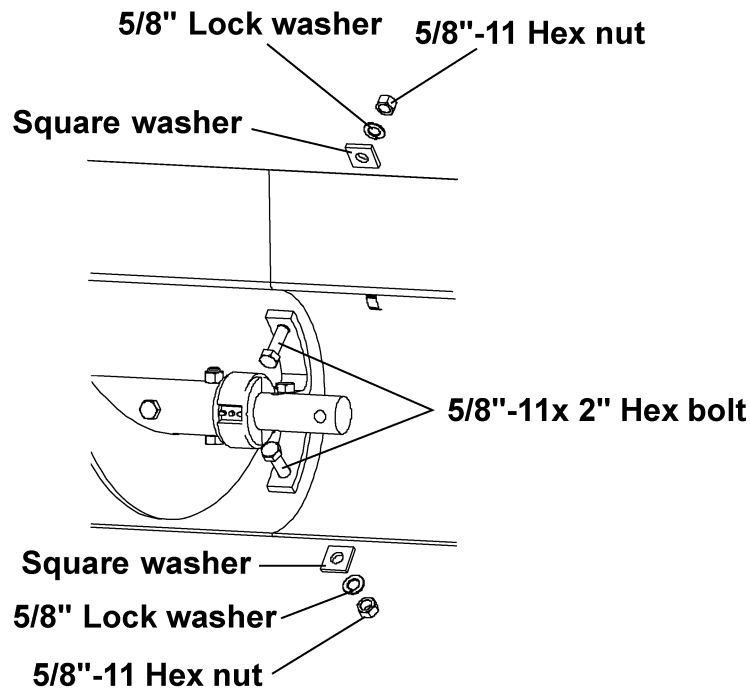

Figure 5F
- B. Bolt the hanger brackets to the back shields using two (2) 5/8"-11 x 2" hex bolts, two (2) square washers, two (2) lock washers, and two (2) hex nuts as shown in Figure 5F.